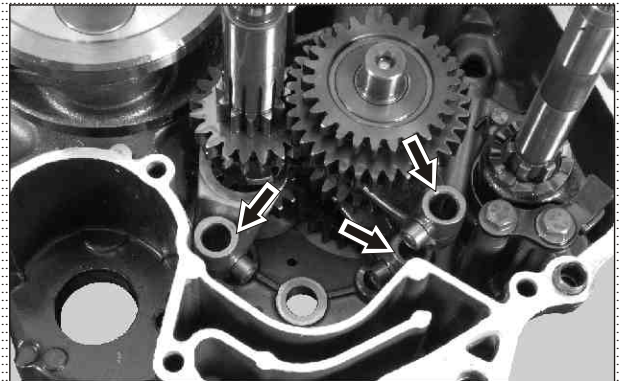

Fig. 3.100
- Take out fork gear shift no. 1, fork gear shift no. 2 and fork gear shift high speed from gears along with spacer roller gear shift fork pin (3 nos). (Fig. 3.100)